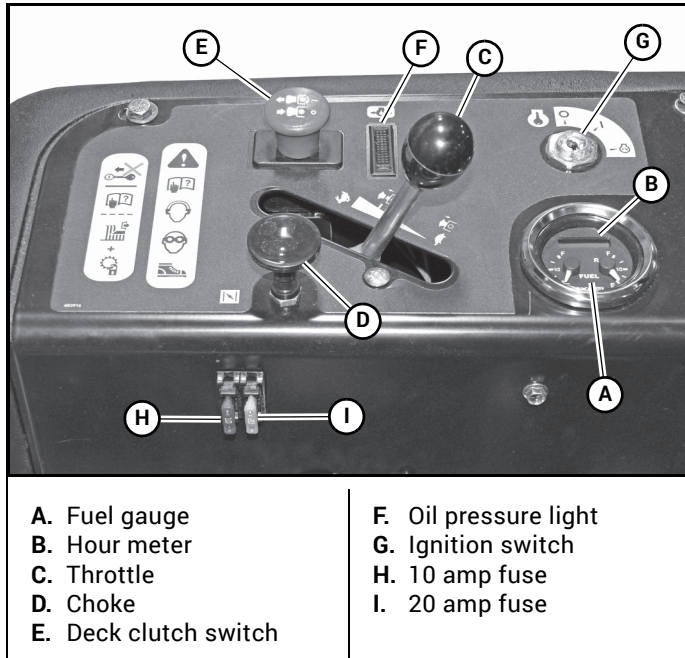
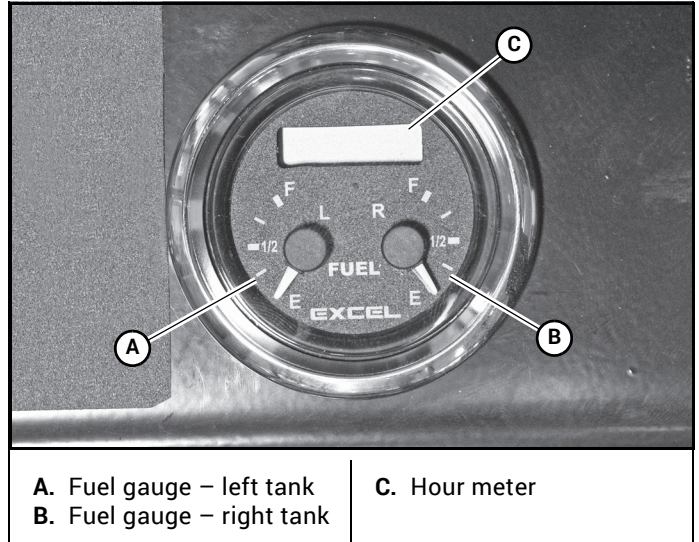

Figure 3-1
Figure 3-2
- A. **Fuel tank gauge (Figure 3-1 & Figure 3-2)** – this gauge shows the fuel level for each fuel tank. The right gauge indicates the fuel in the right tank and the left gauge indicates the fuel level in the left fuel tank.
- B. **Electronic hour meter (Figure 3-1 & Figure 3-2)** – registers 1/10 hour increments up to 9,999.9 total hours. It is connected to the ignition switch. It records the accumulative time while the ignition key is switched to the “RUN” position.
- C. **Throttle control (Figure 3-1)** – a cable is linked to the engine throttle for controlling engine speed. Move the lever forward to increase engine rpm, move the lever rearward to decrease engine rpm.
- D. **Choke control (Figure 3-1)** – a cable is linked to manually operate the engine choke. When the lever is in the down position, the choke is in the “OFF” (run) position. When the knob is pulled up, the choke is in the “ON” (start) position. Do not operate the machine in the “ON” (start) position.
- E. **Deck clutch switch (Figure 3-1)** – this switch engages the deck. Pull the switch up to engage and push switch down to disengage the clutch.
- F. **Oil pressure light (Figure 3-1)** – this light comes on when the ignition switch is placed in the “RUN” position and stays lit until the engine is running and a safe oil pressure is developed. If the light comes on during operation, shut the engine off immediately and locate and correct the problem.
- G. **Ignition switch (Figure 3-1)** – a three position switch: “OFF”, “RUN”, and “START”. With key inserted, rotate it clockwise to the “START” position; release the key when the engine starts, and the switch will automatically return to the “RUN” position.
- H. **10 amp fuse (Figure 3-1)** – Ignition system & Safety system - 10 amp, blade-type.
- I. **20 amp fuse (Figure 3-1)** – Controller - 20 amp, blade-type.